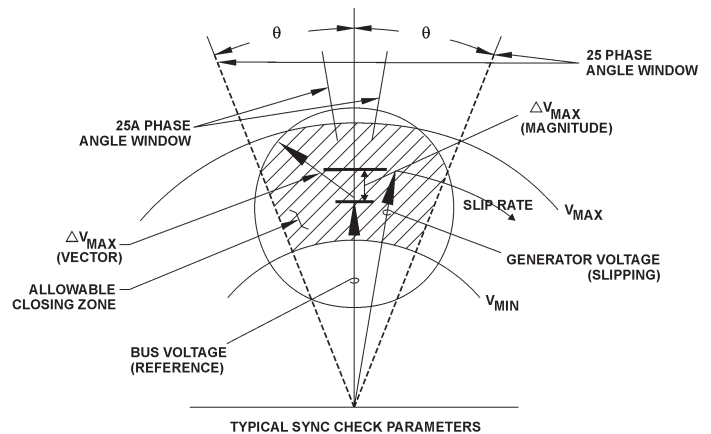

Figure 11 - Typical 25 and 25A Parameters
It is common practice to supervise the 25A control element with a BEI-25 or other sync-check (25) device. The voltage and frequency settings for the 25 are generally set wider than the 25A. It is important to note that the recommended settings given above apply to the 25 device, if used. In such an application, the 25A is set with narrower parameters than those recommended maximums. Figure 11 shows a typical 25 and 25A parameter window.